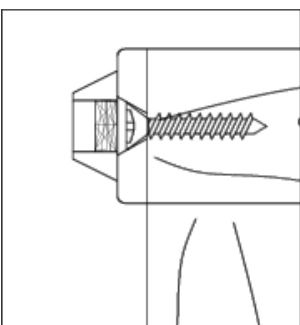

Figure 1
- Use a 3/32" drill bit to drill pilot holes into the furniture item at the "screw marks". Use the TWO Short screws to secure the furniture-side bracket. This bracket can be positioned either vertically or horizontal as necessary (See Figure 1).